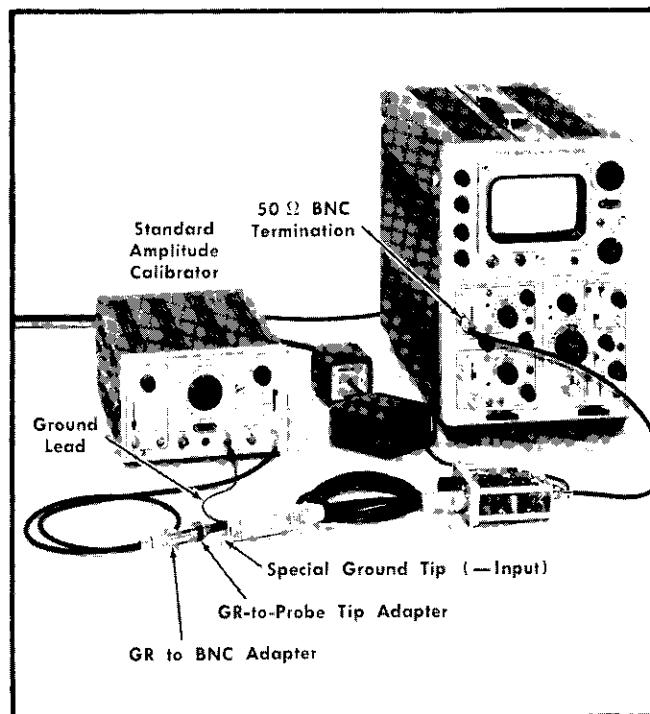

Fig. 6-25. Equipment setup for GAIN adjustment, step 5.
- The preliminary control settings apply. The equipment setup appears in Fig. 6-25.
- Remove a special ground tip from the Probe + Input tip. Connect the ground lead (item 21) from the Probe ground lug to the chassis of the Standard Amplitude Calibrator (item 4).